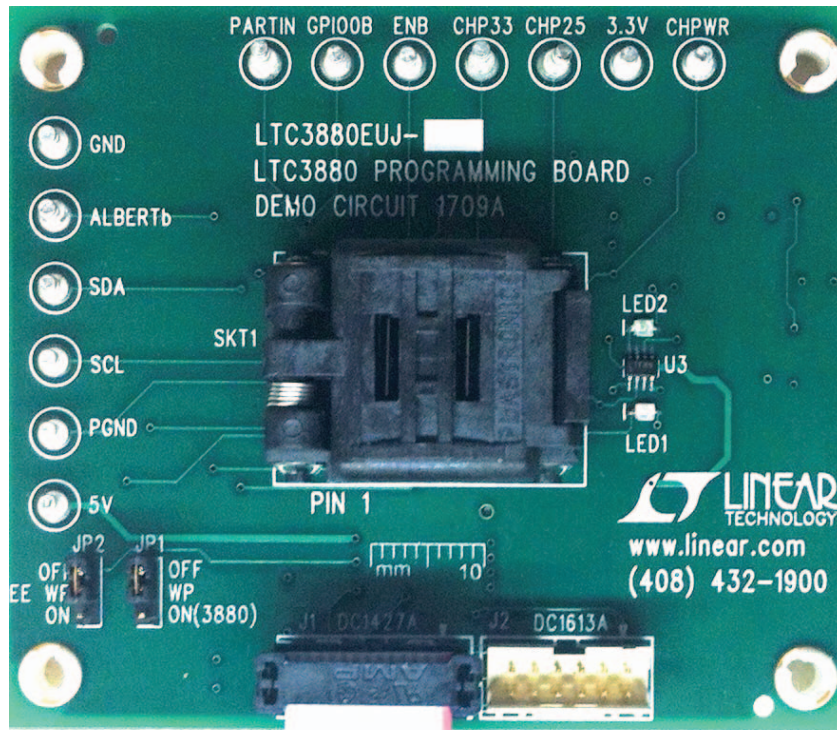
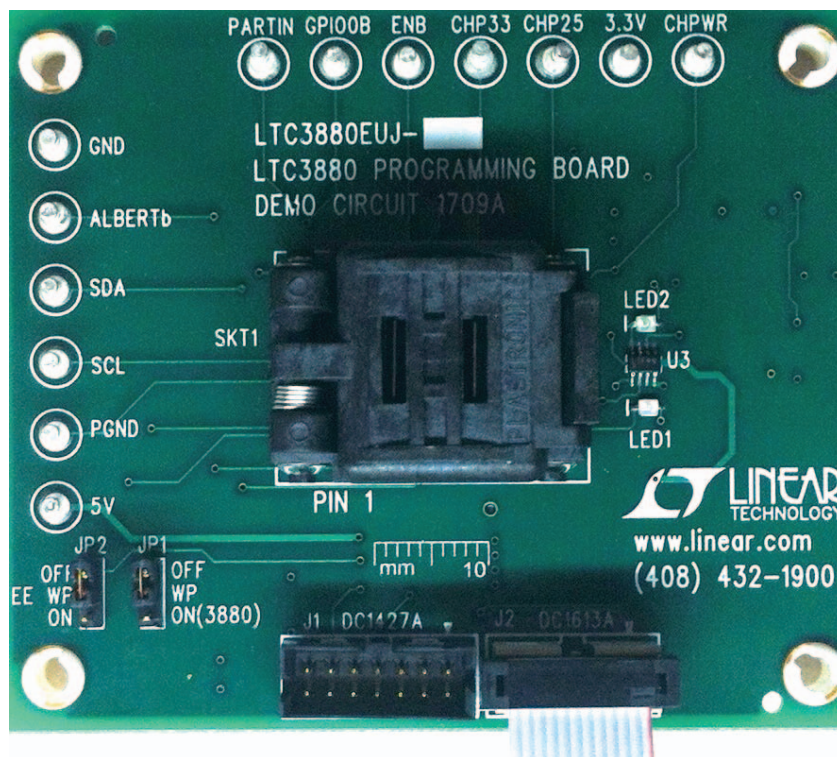

Figure 3. FDC1427A Ribbon Cable Installation
Figure 4. DC1613A Ribbon Cable Installation
5. If you have a DC1427A, plug the ribbon cable into J1 (see Figure 3). If you have a DC1613A, plug the ribbon cable into J2, as shown in Figure 3 and Figure 4.